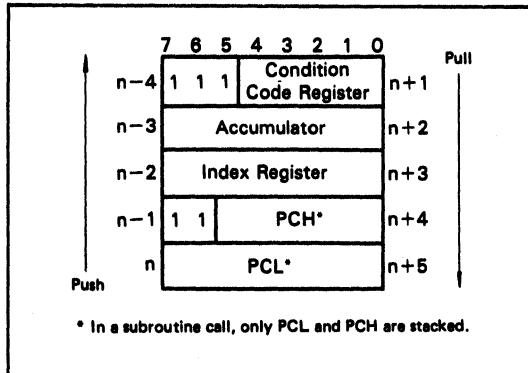

Fig. 2-2 Sequence of Interrupt Stacking
During the processing of the interrupt, the register contents are pushed onto the stack in the order shown in Fig. 2-2. The stack pointer decrements. The low order byte (PCL) of the program counter is stacked first and the high order byte (PCH) of the program, the index register (X), the accumulator (A) and the condition code register (CCR) are stacked in that order. For subroutine calls, program counter (PCH, PCL) contents are pushed onto the stack.